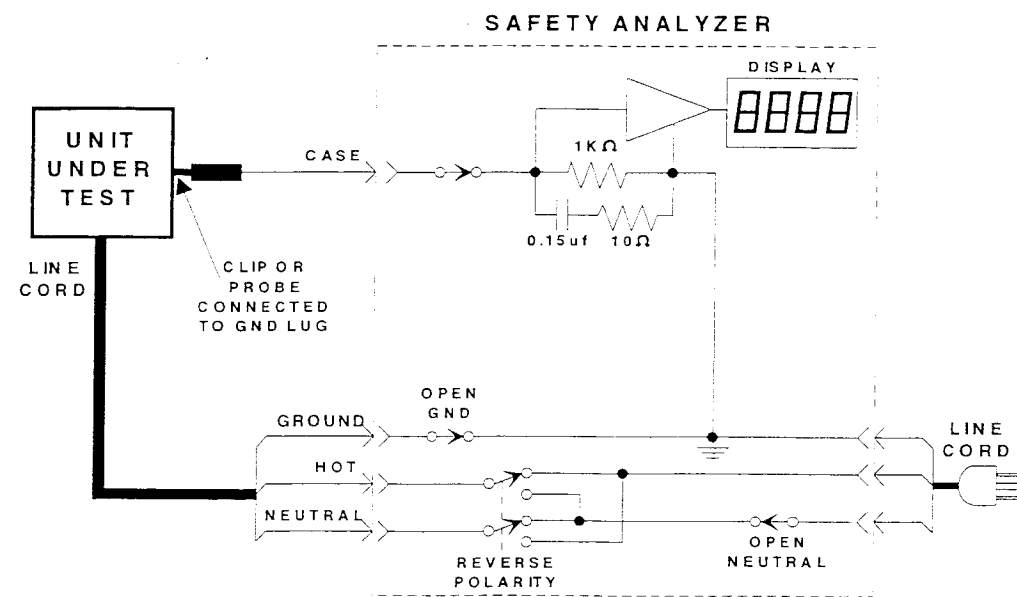

Figure 7-13
1. Plug the System into the safety analyzer, as shown in figure 7-13. Connect the CASE ground lead of the analyzer to the GND lug.